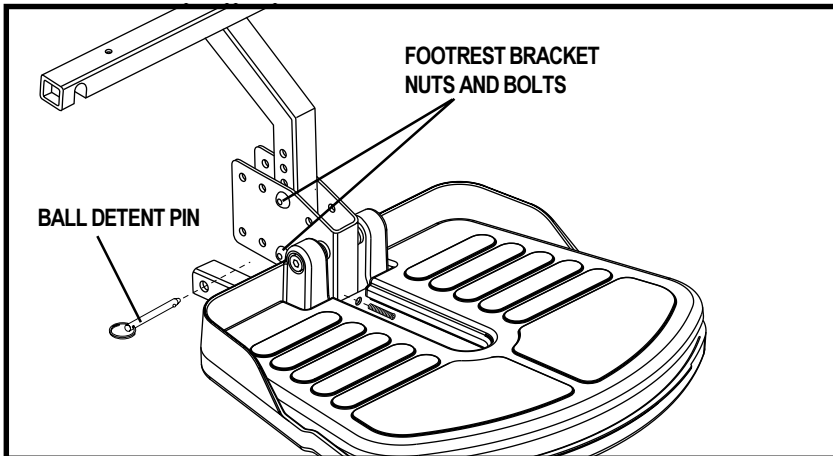

Figure 17. Footrest (Shroud removed)
1. Remove the nuts and bolts from the footrest bracket. See figure 17.